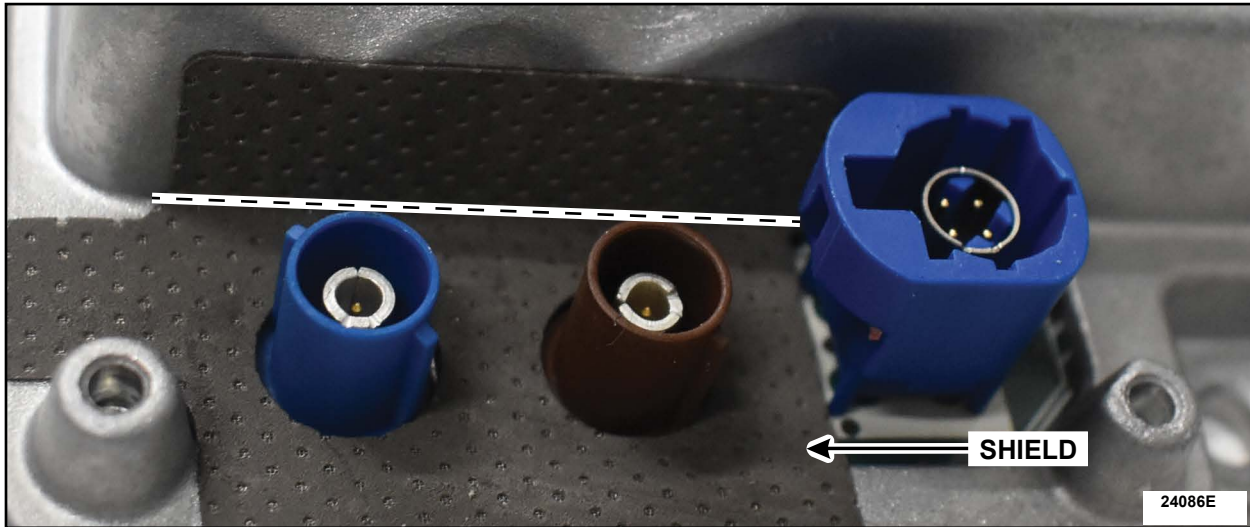

FIGURE 5
6. Using a plastic wedge tool, run it down the 90-degree bend, to ensure the shield sits flat on the APIM housing. See Figure 5.